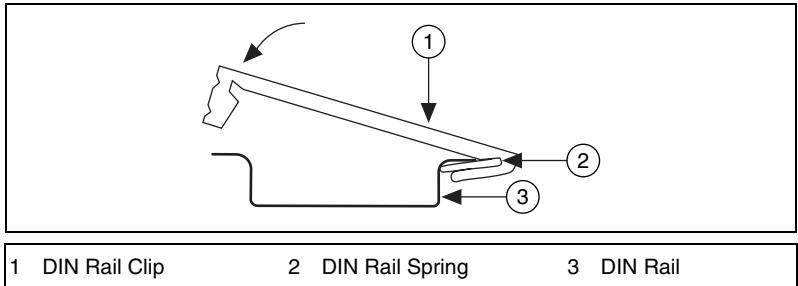

Figure 5. One Edge of the DIN Rail Inserted in a Clip
2. Insert one edge of the DIN rail into the deeper opening of the DIN rail clip, as shown in Figure 5.